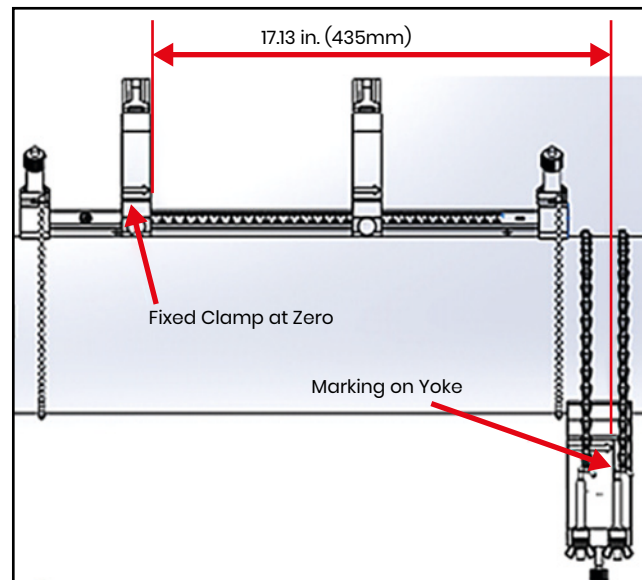

Figure 29: Yoke Set at 435 mm/17.13 in.
- Spacing >305 mm/12 in. (435 mm/17.13 in. is used as an example): Measure the required 435 mm/17.13 in. distance from the edge of the fixed clamp to the marked line on the yoke (see Figure 29 below).